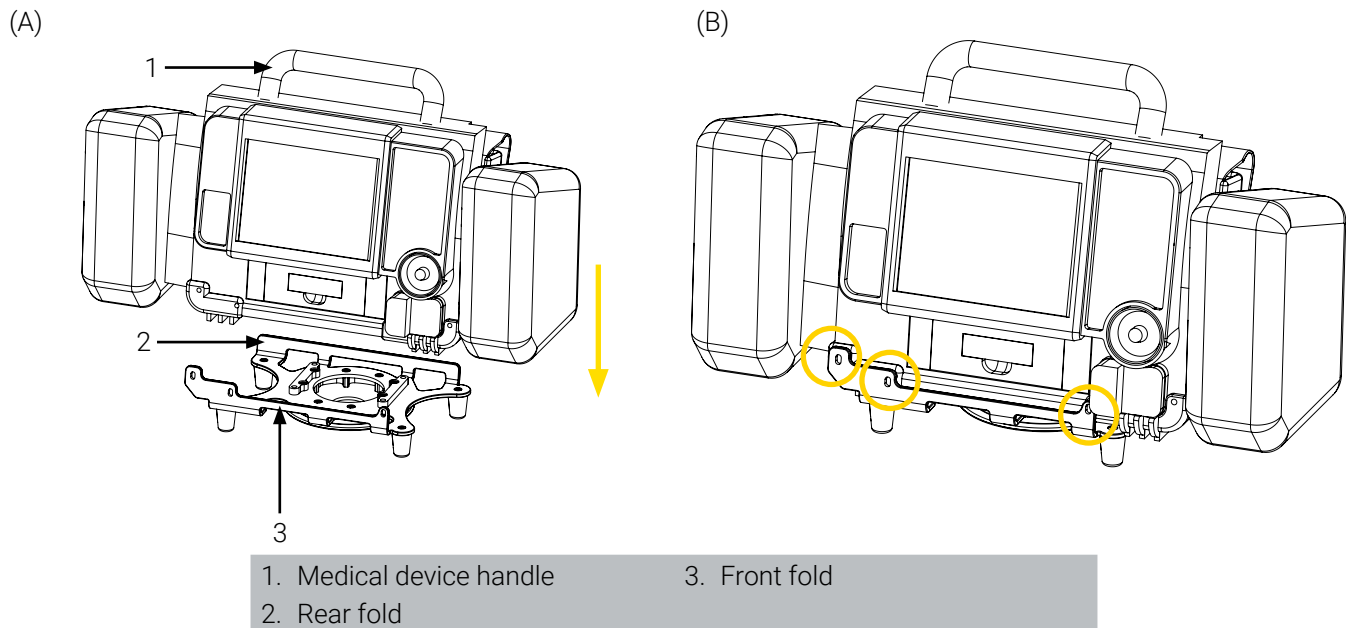

Figure 4: Installing the medical device in the Bracket Pro Serie 35 - HD
1. Lift the medical device using the handle and insert it centered in the bracket, aligning the bottom edges of the monitor/defibrillator between the rear fold and front fold of the bracket (Figure 4 A).
2. Ensure that the screw holes of the medical device and bracket are aligned (Figure 4 B).